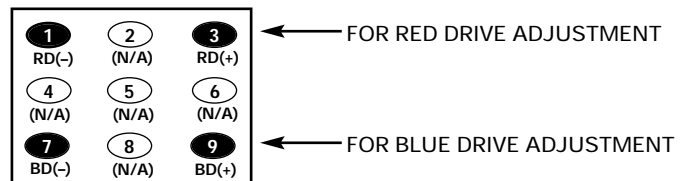

Figure 5. Remote Control Number keys' functions in Service Menu NO. 8F DRV
12. Adjust Red and Blue Drive Levels alternately with 1, 3, 7, or 9 key to produce normal black and white picture in highlight areas. (See Figure 5.)